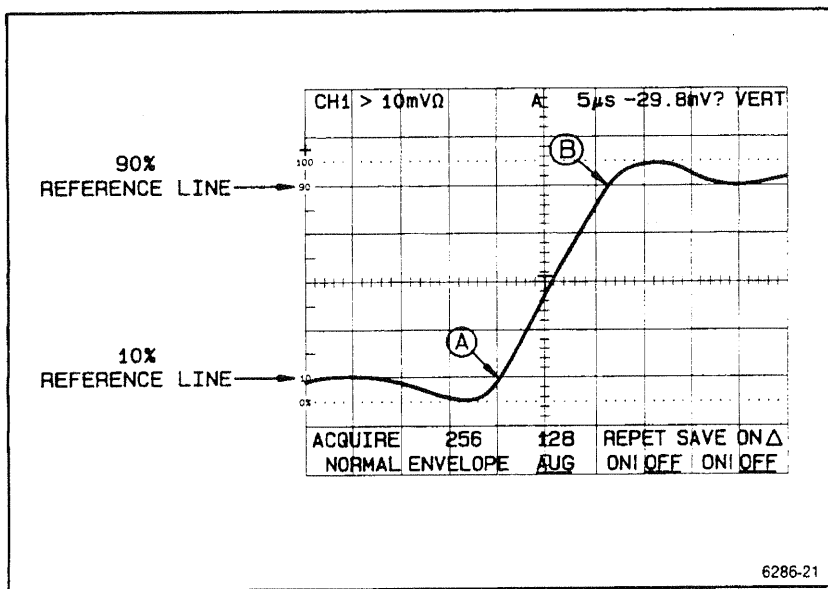

Figure 3-5. Rise time of a square wave (time duration).
5. Horizontally position the square wave so that the 10% point on the waveform intersects a vertical graticule line near the left side of the screen. (See point A of Figure 3-5).
6. Count the number of horizontal divisions, including fractional divisions, between the 10% and 90% amplitude levels on the waveform. (See points A and B of Figure 3-5.) To determine the rise time, use the following general formula for time duration measurements:
EXAMPLE: Figure 3-5 gives the SEC/DIV control setting as $5 \mu\text{s}$ for the A time base. Counting the number of divisions between the 10% and 90% graticule lines (marked as A and B in diagram) yields 2.2 divisions. Substituting these values into the above formula yields